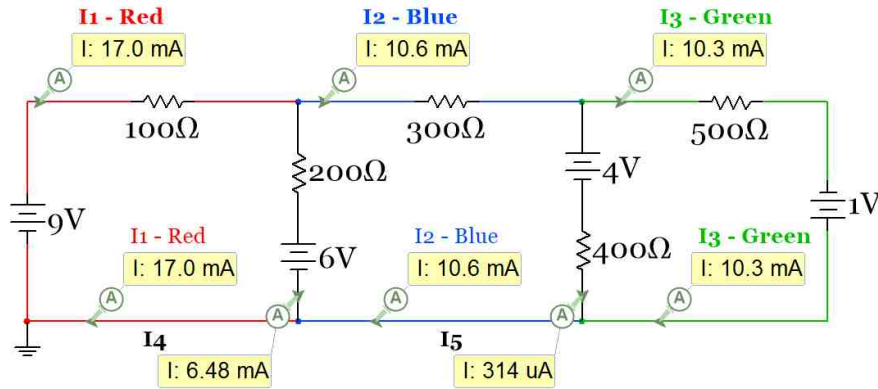

Figure 2.13: Circuit for example 2.7.
*Example 2.7) Solve the circuit in Figure 2.13 for all 5 currents using the Mesh Matrix Method*